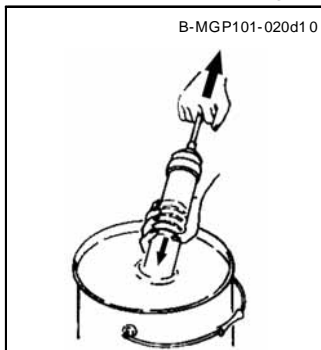

Fig. 4-6 Suction
- 2. Immerge the open end of the press reservoir into the grease container. Slowly pull the hand lever backwards while following the sinking filling level in the grease container. This will prevent air from being sucked into the press reservoir during the filling procedure (Fig. 4-6).
If engaged inaccurately (Fig. 4-6) the follower rod may unlatch unwantedly.